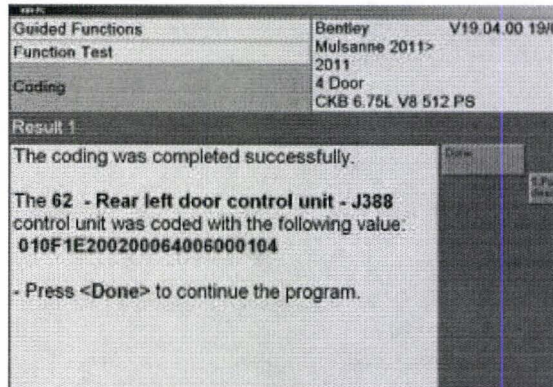

Figure 9
15. In the successful coding screen select *Done* (see Figure 9)